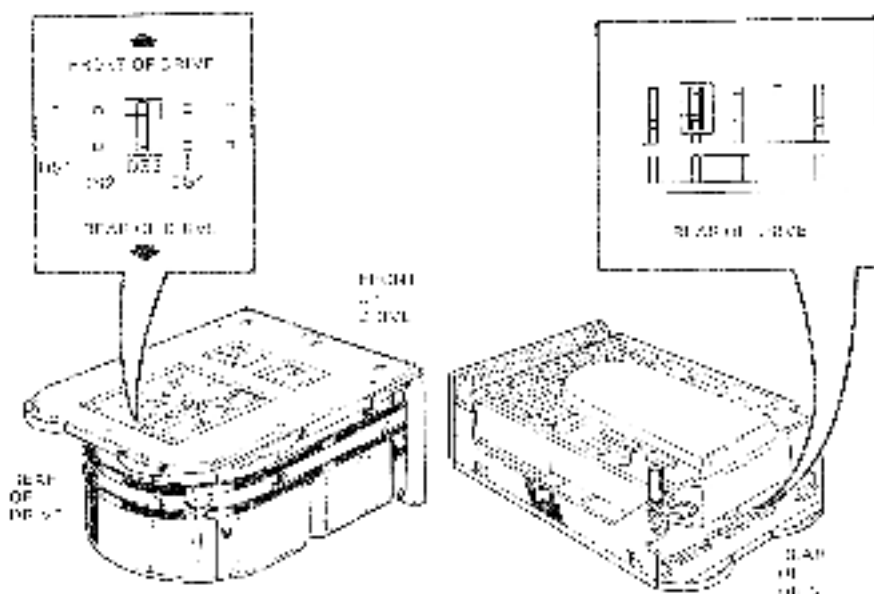

Figure 8-6 RD5n Jumper Clip Setting
7. To configure an RD5n drive as DCO (installed in port 0), make sure the jumper clip is set at DS3 (Figure 8-6). To configure an internal RD5n drive as DCO (installed in port 1), place the jumper clip on DS4. Refer to Sections 5.3 and 5.5 for further information.